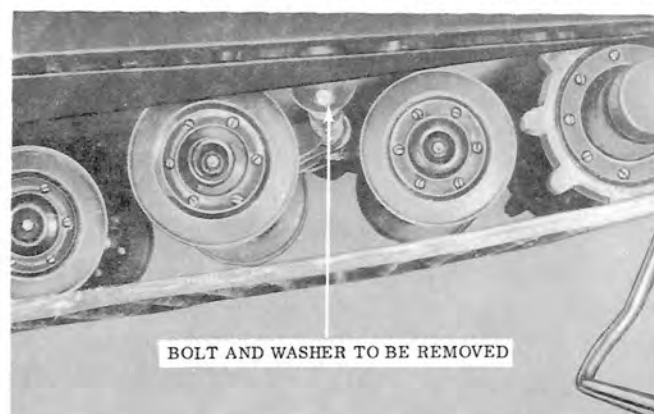

Figure 6
12. Remove the three boggie assemblies by removing a bolt and a washer from each end of the boggie wheel support shaft. Figure 6 shows bolt and washer to be removed.